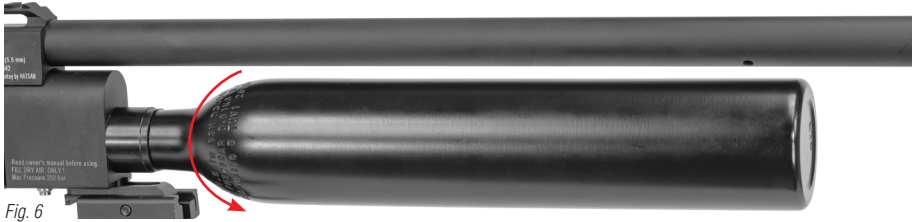

Fig. 6
- Be sure that the rifle is first not cocked or loaded. Slowly unscrew the bottle. **(Fig. 6)** A small amount of air will escape after the bottle has been unscrew a few turns - this is normal.